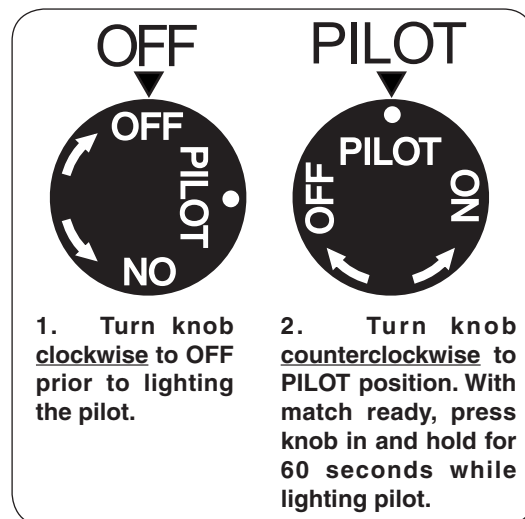

Fig. 9-1 Control knob detail (OFF, PILOT)
1. Locate the valve on the side of the unit. Push in the gas control knob slightly and turn clockwise to **OFF** (Fig. 9-1).
2. Turn the control knob counterclockwise to **PILOT** (Fig. 9-1). Push the control knob **firmly and fully** in and hold. Hold a long fireplace match or lighter near the thermocouple to light the pilot. Continue to hold the control knob in for approximately 60 seconds after the pilot is lit, then release the knob. The pilot will remain lit.